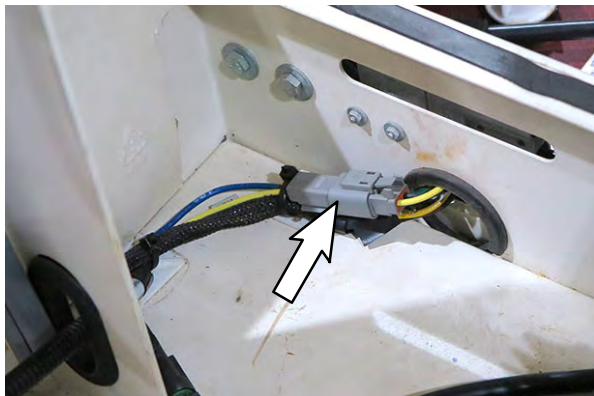

**FIG. 18**
31. Connect the blue spotlight harness (17) to the M1 relay switched power terminal. (Fig. 18/ Fig. 19)